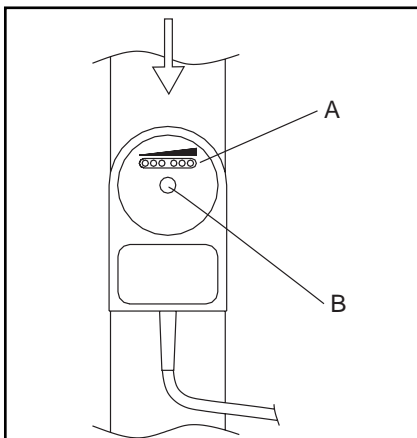

Fig. 13 17467
N.B. Check that the flow switch is correctly fitted, see Fig. 13. The flow switch should be placed parallel to the pipe so that the cable emerges in the direction of flow.
Maintenance-free. See section 3 and Fig. 13.